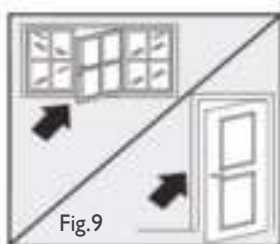

Fig.9
- Close the windows (that aren't being used for venting) and doors in the room to be air conditioned (Fig.9). When installing the appliance semi-permanently, you should leave a door slightly open (as little as 1 cm) to guarantee